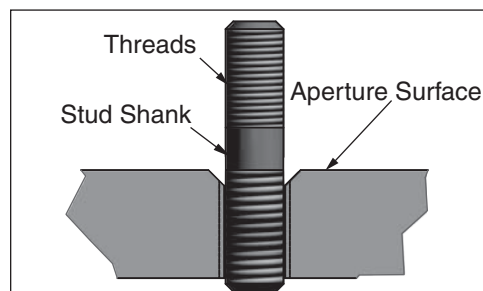

Fig. 7
**CAUTION:** Over tightening of studs or running the shoulder past the transmission mounting surface may damage stud and/or transmission. Use of air impact tools is not recommended (**Fig. 7**).